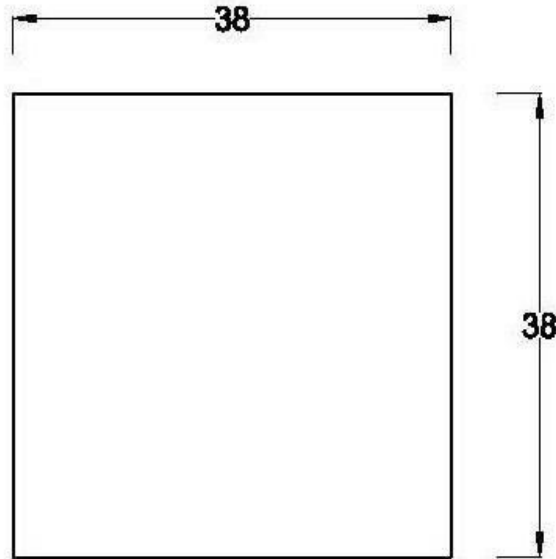

**Fig 2.4. Various operations performed on a shaper machine**
- The feed is given during the return stroke of ram. Operations performed on a shaper can be easily understood from Fig. 2.4.